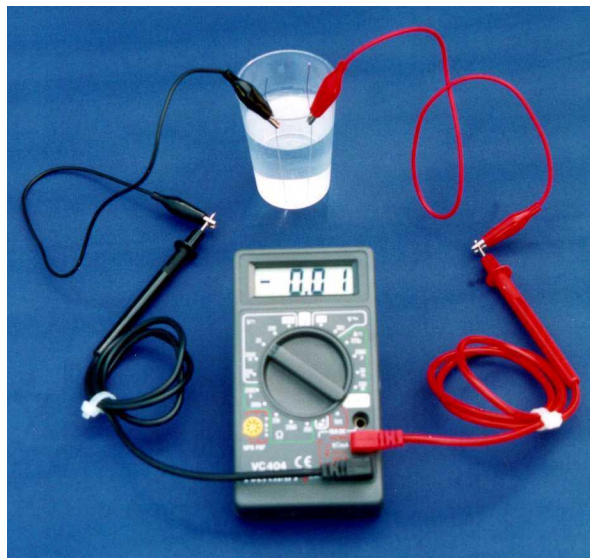

Figure 2: Photo showing how to measure the voltage of a solution
3. Measure the voltage of the water sample using the platinum wires for the electrodes. See **Figure 2** for assistance. The electrodes should be about 1 cm apart or closer, but not touching. Record the distance between the electrodes and make sure to use the same distance for all the samples.
Considerations: Students will need a copy of the original labels for Epsom salt and vinegar, or another source of the chemical names and formulas to answer Questions 1 and 2. Figure 2 may cause confusion due to the orientation of the alligator clips in the left-hand connection. The connection on the left is identical to the one on the right. Students may need help elucidating the reactions that are occurring at each electrode, especially the oxidation that occurs on the paper clip.